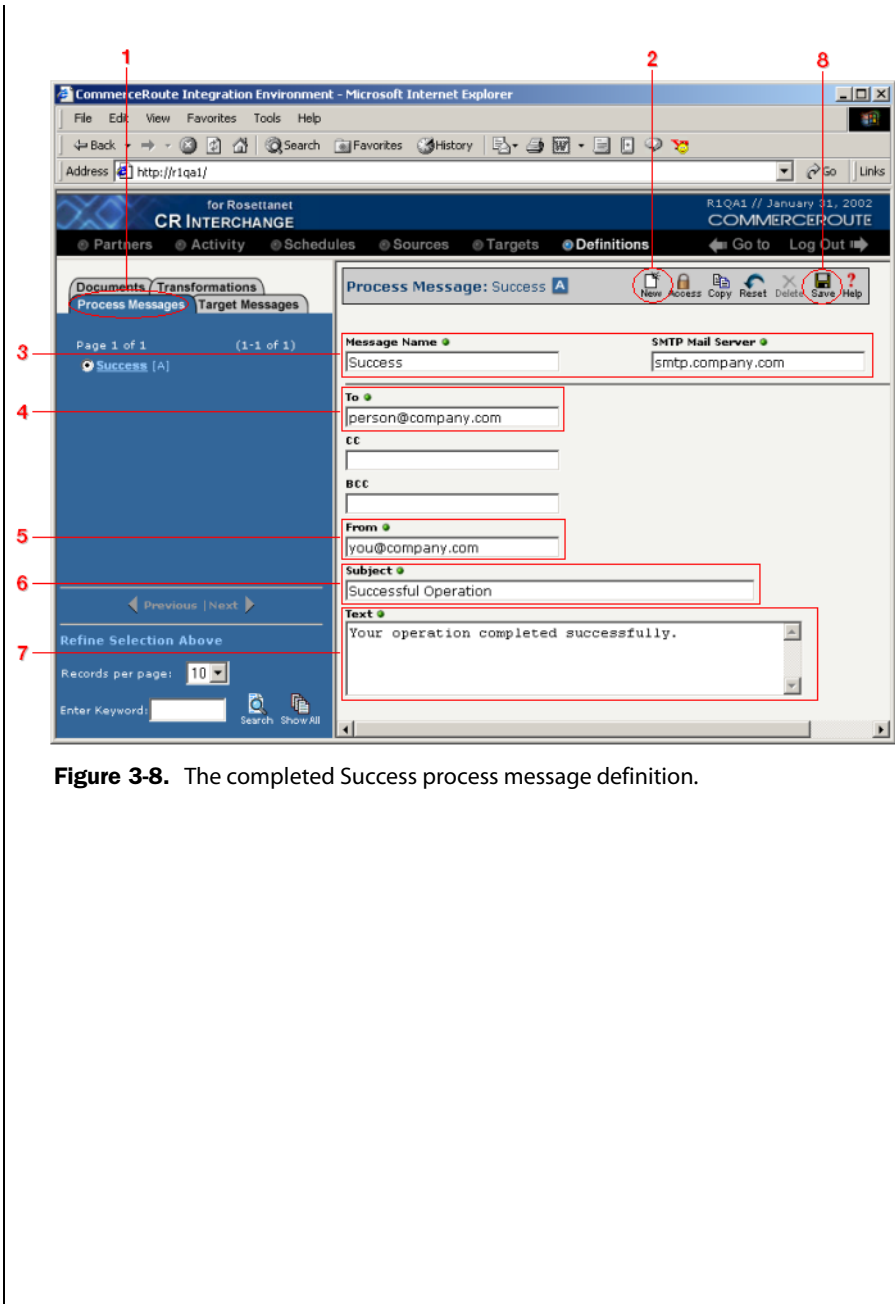

Figure 3-8. The completed Success process message definition.
- ❽ You've finished this process message definition, so click the **Save** button in the toolbar. Note that you now have a new "Success" process message definition selected in the message list at the left side of the screen. Your message should resemble Figure 3-8 below.